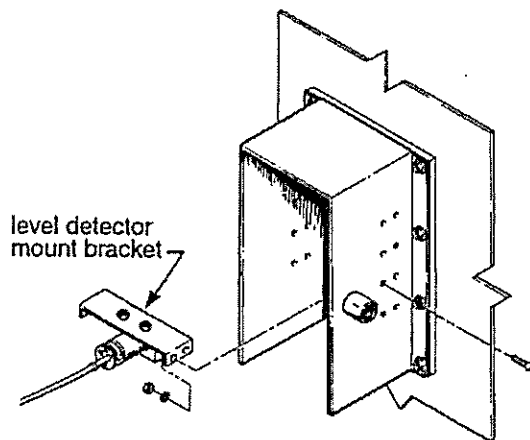

Fig. 53 Detector mountings
13. **LEVEL DETECTOR VERTICAL POSITION** Check that the level detector mount bracket is installed with the mounting flanges down, to the second from the bottom row of mounting holes (fig. 53).